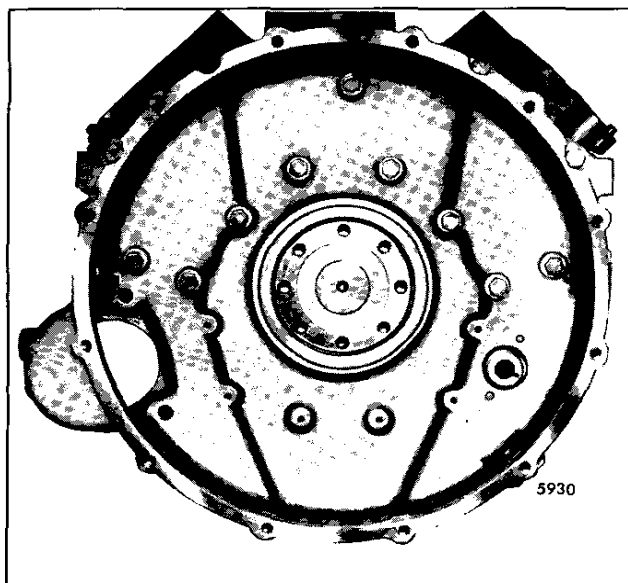

Fig. 2 - Flywheel Housing Mounting Bolts
5. Install all of the housing bolts in their proper location, finger tight (Fig. 2). Remove the pilot studs. See Fig. 3 for marine flywheel housing.